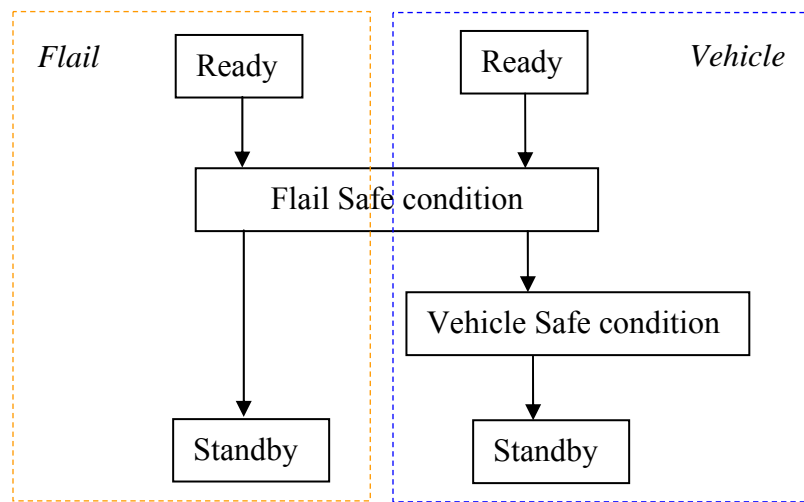

Figure 1: Vehicle state transition from Ready to Standby.
2. **Standby** - vehicle goes into stationary mode. The parking brake is applied. All driving functions are not available while in standby. When automatically transitioning from Ready to Standby, vehicle goes through a safety shutdown (refer to Figure 1).
2. **Standby** – flail operation is stopped. When transitioning from *Ready* to *Standby*, the flail goes into a Flail Safe condition. Refer to Figure 1.